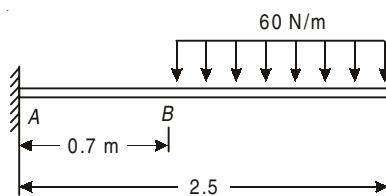

Fig. 5.41
5.19. Draw the SF and BM diagrams for the beam shown in Fig. 5.41.
5.20. Draw SFD and BMD for the beam shown in Fig. 5.41.